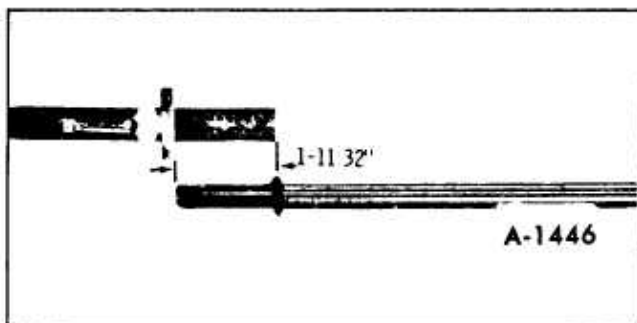

Figure 34—Oil Pump Shaft Extension
**NOTE:** Do not attempt to remove the washers from the drive shaft extension. The drive shaft extension and washers must be serviced as an assembly. See Figure 34.